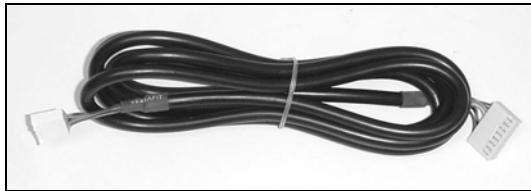
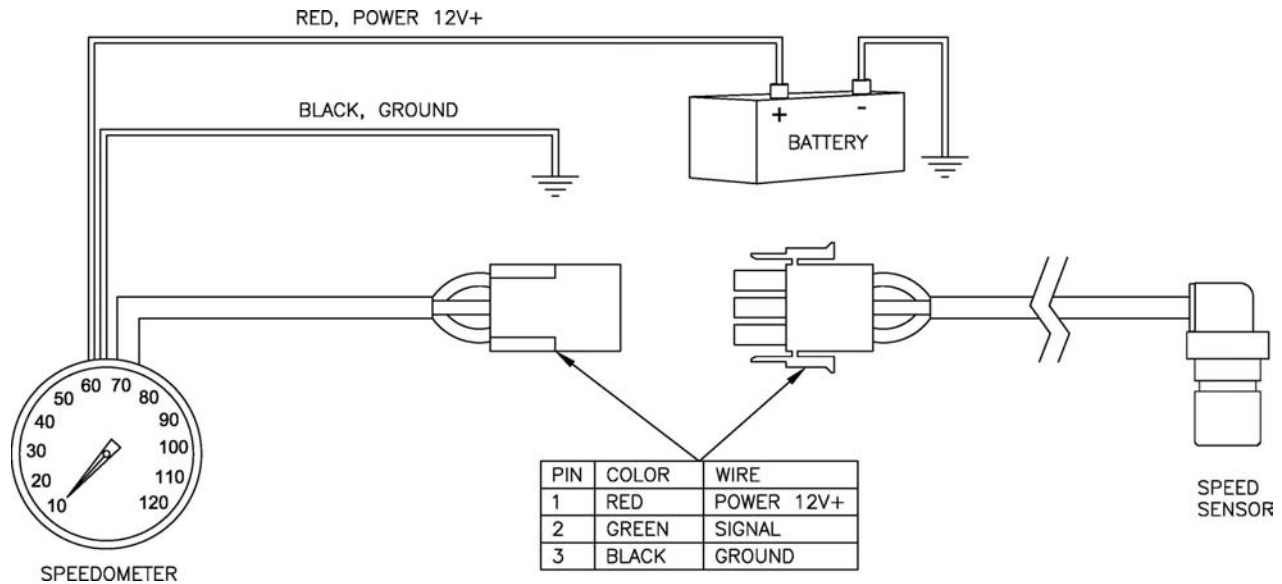

Figure 1—Harness P/N RSE4145 (Included) for use with Thunder Heart Performance harness controllers
Figure 2—Adapter Harness P/N ASM4102 (MUST BE USED with any other wiring or harness controller)
**WARNING!** USE OF THIS GAUGE ASSEMBLY WITH ANY OTHER WIRING OR CONTROLLER SYSTEM WILL DAMAGE THE LED INDICATORS, UNLESS THUNDER HEART PERFORMANCE INDICATOR ADAPTER HARNESS (P/N ASM4102; SHOWN IN FIGURE 2) IS USED IN PLACE OF THE INCLUDED HARNESS (SHOWN IN FIGURE 1).